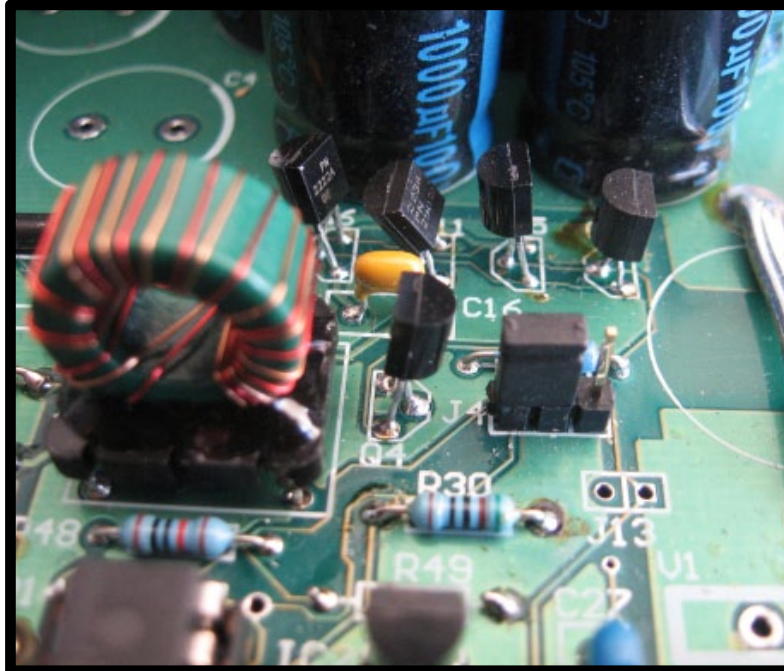
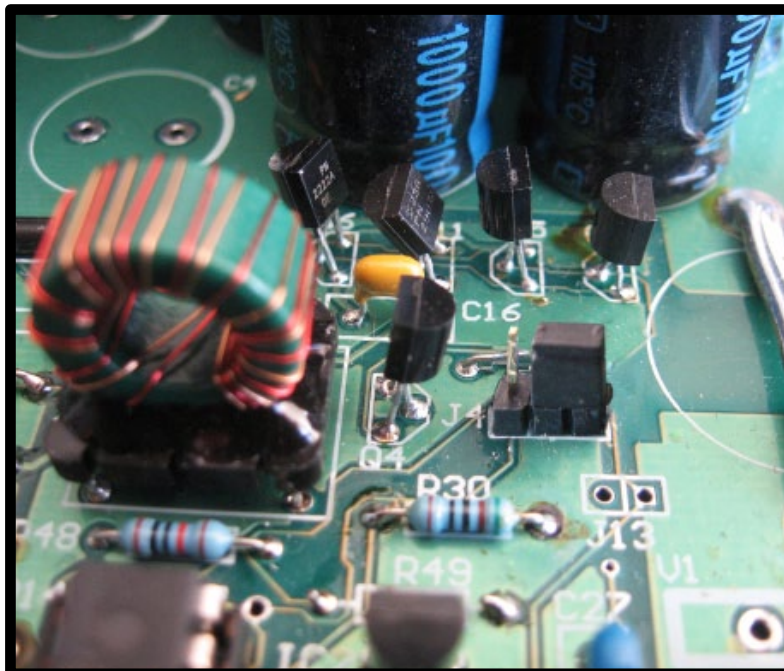

Figure 2 (Above): High Capacity Setting
Figure 3 (Above): Long Life Setting
4. Shift link on J4 to desired battery setting (High Capacity – see **Figure 2**, Long Life - See **Figure 3**).